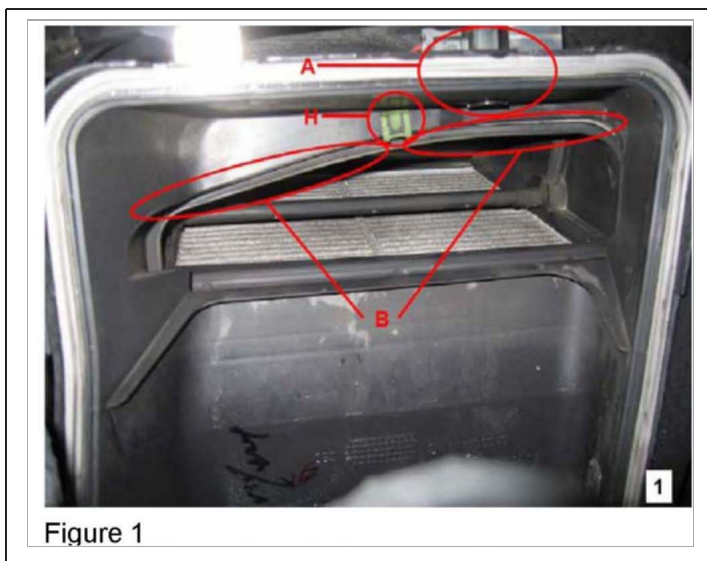

Figure 1
If you receive customer reports in the above model vehicles of a nonfunctional **blower motor** (blower motor runs continuously) or water drops in the front passenger footwell after an engine wash, this may be caused by an insufficient sealing of the air/water box when a lot of water is used when the engine compartment is cleaned near the right side of the firewall. The affected areas are the air quality sensor shown as A in Figure 1, 3 and 4 and the sealing surface between the firewall and air intake pipe housing shown as B in Figure 1 and 4. To remedy, proceed with the following.
7. Visually check vehicle interior for leaks. In the area of the removed interior filter, the sealing surfaces of the air quality sensor (Figure 1, 3 and 4, item A) and the sealing surface between the firewall and the air intake pipe housing (Figure 1 and 4, item B) are visible.
8. Seal off areas of the seal affected by water entry. Detach the air intake pipe housing by removing the retaining clip (Figure 1, H) and the two threaded connections (Figure 4, J). Seal the surfaces between the air quality sensor/air intake pipe housing (Figure 4, A) and firewall/air intake pipe housing (Figure 4, B) using Terostat 934 sealing compound (A004 985 29 20).
9. Repeat the leak test steps 5 and 6. If no water ingress can be found, remove the external water hose and reassemble the vehicle in the reverse order. If the retaining clip was not installed at the factory, retrofit a clip (Figure 1, H).